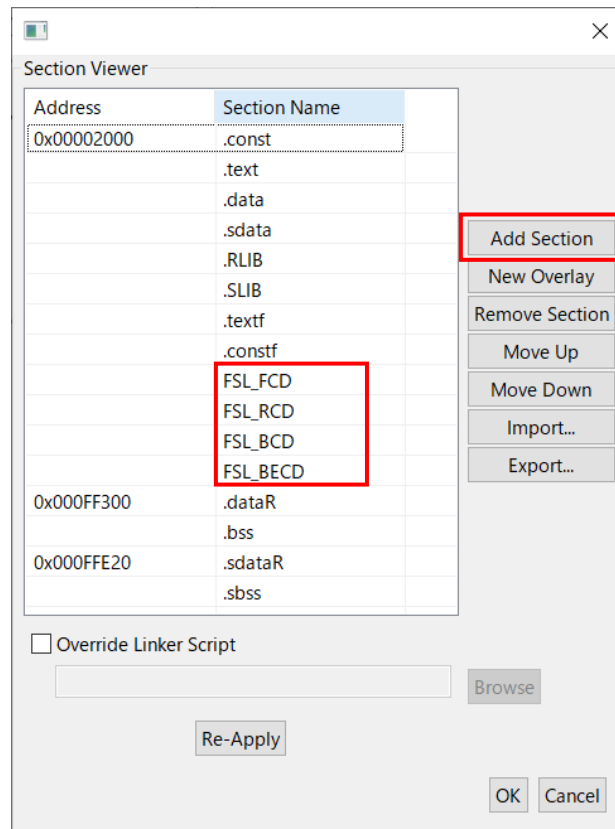

Figure 9-4. Example of Section Settings for the Flash Self-Programming Library when Use e² studio (ROM Area)
- Setting of the section items on e² studio inputs in the “Properties” window. Select “C/C++ Build” [Setting] - “Linker” [Section]. And set section items on the displayed screen. Remove a check mark to [Layout sections automatically(-auto_section_layout)]. Press the “” button of the right-hand side which sections are displaying, and a “Section Viewer” screen is displayed and add the sections necessary for the flash self-programming library to the ROM area (Figure 9-4). (In this example, the FSL_FCD, FSL_RCD, FSL_BCD, and FSL_BECD sections that are necessary for operation of the sample program are added.)